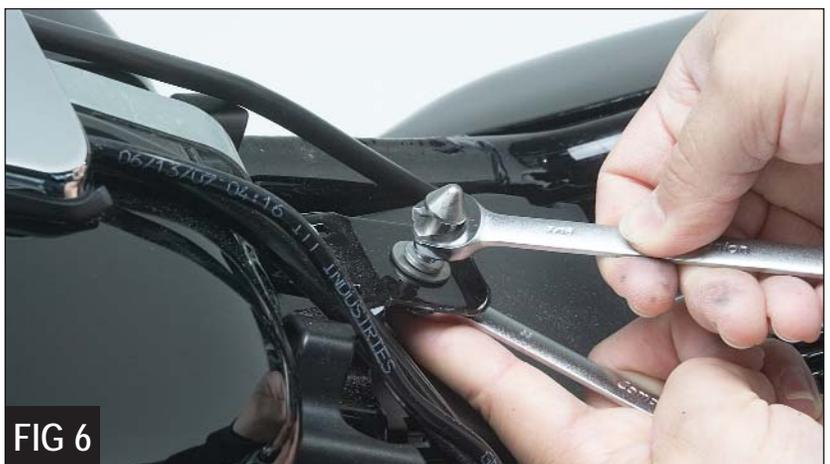

FIG 6
10. Install the supplied #SP10114 latch pin, 1/4 x 20 lock washer and 6mm flat washer into the tab at the base of the gas tank. Secure with a 6mm flat washer and 1/4 x 20 nylock nut, using two 7/16" open wrenches. Tighten to 6 ft. lbs. (*Figure 6*).